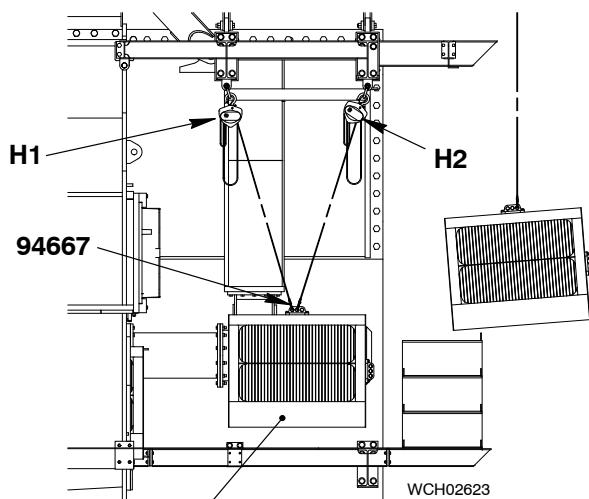

Fig. 6
- 9) Attach the spur-gearied chain block (H2, Fig. 6) to the tool (94667).
- 12) Lower the water separator (1) to the floor.
- 13) Remove the spur-gearied chain blocks (H1, H2) from the tool (94667) on the water separator (1).
- 15) Use the engine room crane to move the water separator (1) to an applicable area.